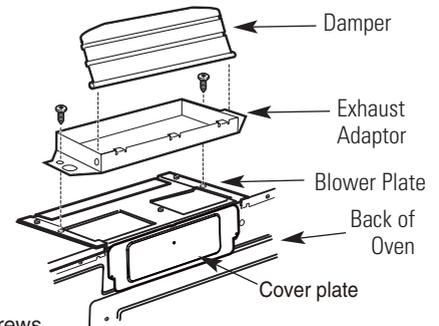

Figure 24
7. Insert the tabs on each side of the damper into the holes at the inside rear of the adaptor. Attach the exhaust adaptor to the blower plate with the two tapping screws provided. See Figure 24. Make sure that the damper swings freely.